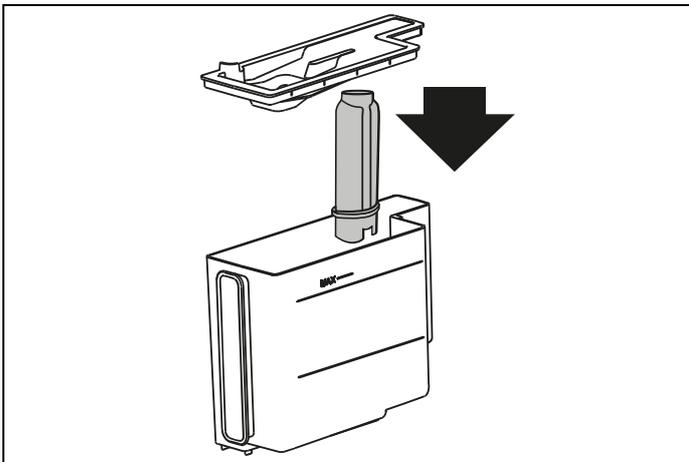

Fig. 58
- 5) (If the filter is installed) **Insert filter into its housing** (Fig. 58). Press \triangleright NEXT and extract the water tank, reinsert the water softener filter if removed previously;
- 4) **Insert filter into its housing and push it down to the bottom**: Insert the filter in the filter housing (Fig. 58) and press as far as it will go. Press  NEXT;